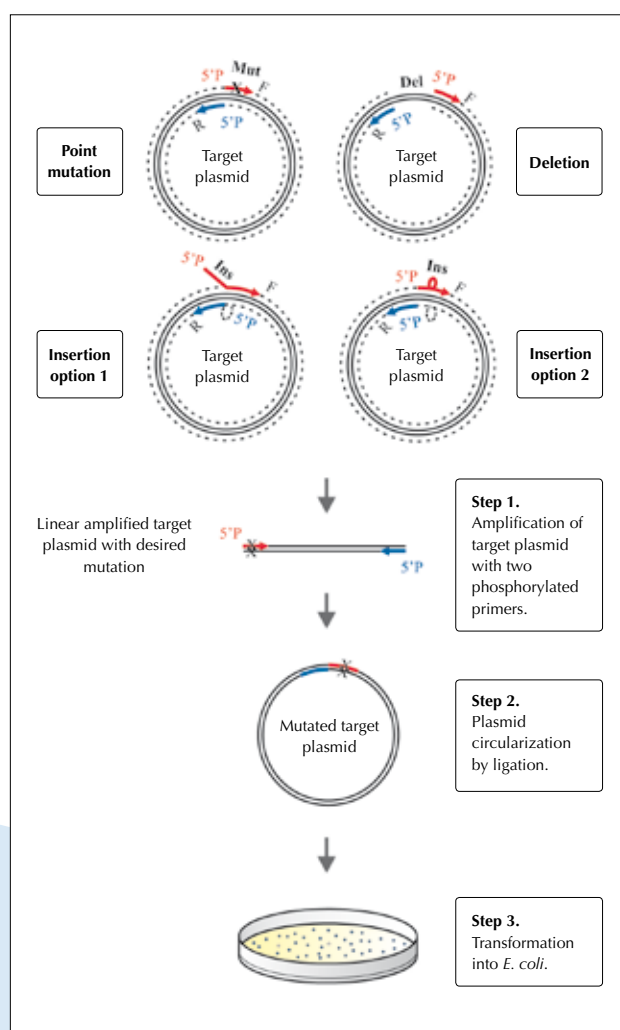

Figure 1. Flow chart of the Phusion Site-Directed Mutagenesis Kit protocol. F = 5' phosphorylated forward primer, R = 5' phosphorylated reverse primer
1. PCR amplification of target plasmid with two phosphorylated primers. The primers, one or both with desired mutation(s), are designed so that they anneal back to back to the plasmid (for schematic presentation, see Fig. 1).
The primer design depends on the type of the desired mutation. Both primers need not to be mutagenic. However, if two separate mutations are desired, two mutagenic primers are needed (see Fig. 1 for a schematic presentation).
See Fig. 1 for a schematic presentation on how to introduce different types of mutations.
Deletions are created by designing primers that border the deleted area on both sides (see Fig. 1, Deletion, for a schematic presentation). To generate a deletion, the primers should be perfectly matched on their entire length, which should be 24–30 nucleotides. See last chapter in section 3.1 for instructions on determining the annealing temperature.
1. For longer insertions, a stretch of mismatched nucleotides is designed in the 5' end(s) of one or both primers (see Fig. 1, Insertion option 1, for a schematic presentation). If mismatched stretches are designed in the 5' ends of both primers, they form one entire insertion when the ends of the PCR product are ligated. The T_m's should be calculated for the perfectly matched portion of the primers. See last chapter in section 3.1 for instructions on determining the annealing temperature.
2. For short insertions, a stretch of mismatched nucleotides is designed in the middle of the primer (see Fig. 1, Insertion option 2, for a schematic presentation). The length of the correctly matched sequence in the mutagenic primers should be in average 24–30 nucleotides. The desired insertion should be in the middle of the primer with 10–15 perfectly matched nucleotides on each side. See last chapter in section 3.1 for instructions on determining the annealing temperature.